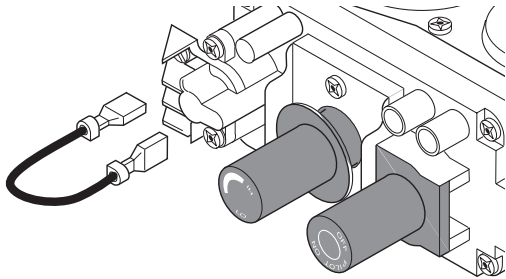

Figure 19 - Disconnecting Jumper Wires From Control Valve
1. Disconnect jumper wires from the control valve (see Figure 19).
1. Remove jumper wire from control valve (see Figure 19).
1. Remove jumper wire from control valve (see Figure 19, page 16).